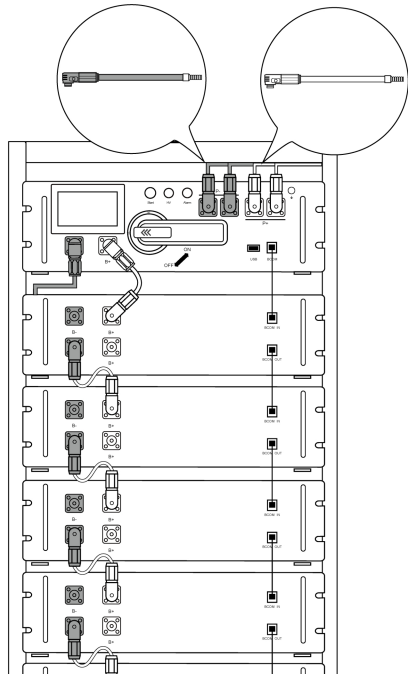
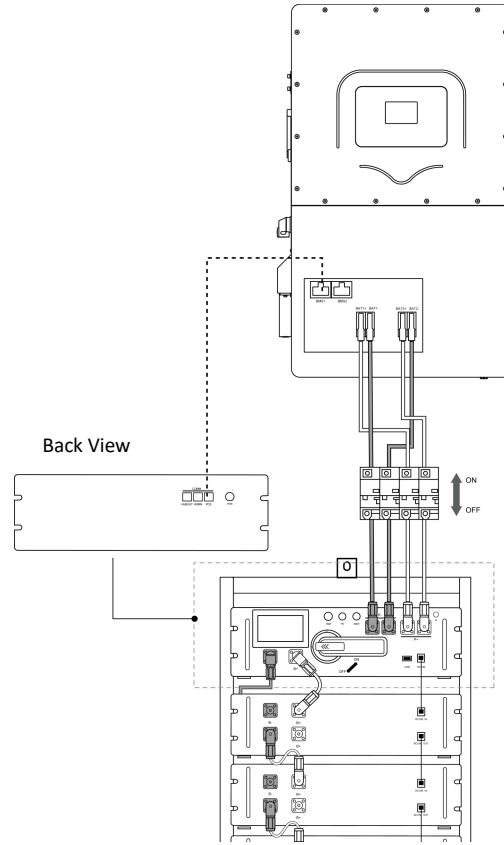

Figure 1-5
Figure 1-6
3. Attach to the PCS : See the figure 1-5 and figure 1-6.